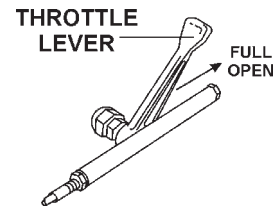

Figure 10. Throttle Lever (Full Open)
1. To start the rammer tamping action, move the throttle lever (Figure 10) **quickly** from **IDLE** (close) to the **FULL OPEN** position. **DO NOT** move the throttle lever slowly as this may cause damage to the clutch or spring.